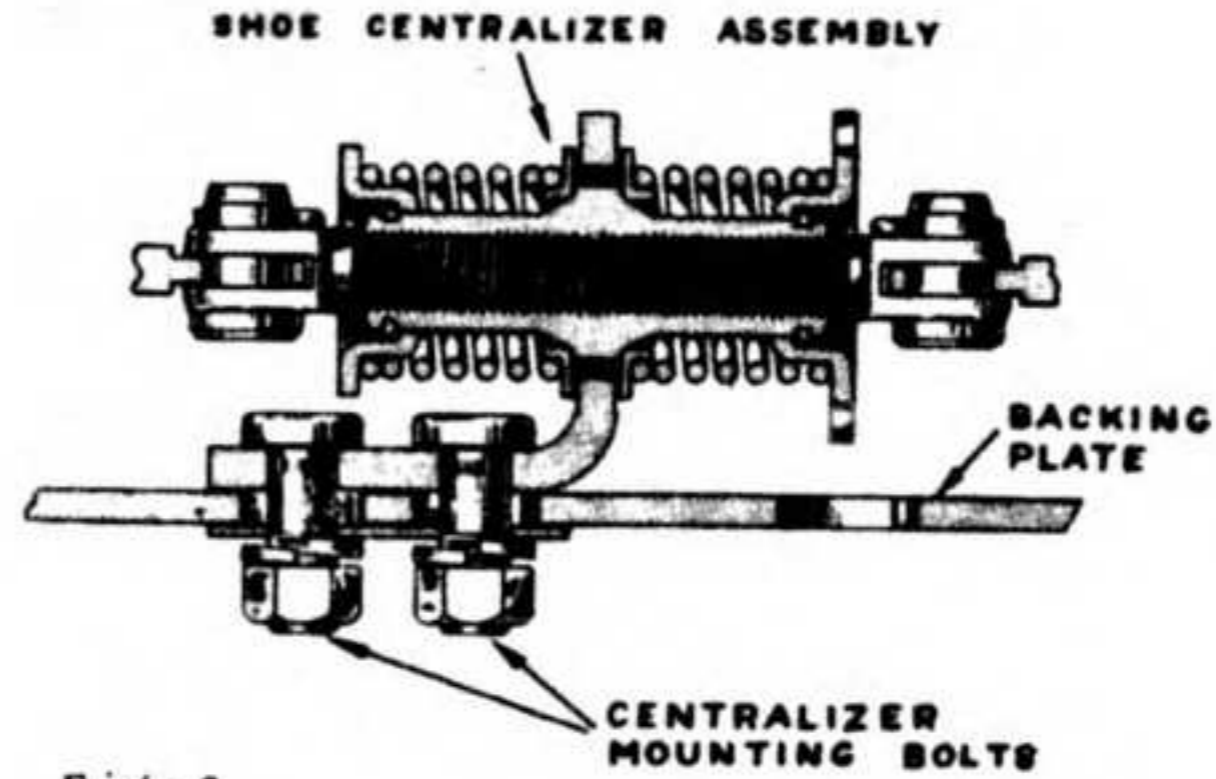

Fig. 3
NOTE: IF THERE IS INSUFFICIENT PEDAL RESERVE AFTER COMPLETING A MINOR ADJUSTMENT AT ALL WHEELS, ADJUST SHOE CENTRALIZER AT ALL WHEELS AS FOLLOWS: LOOSEN SHOE CENTRALIZER MOUNTING BOLT NUTS UNTIL THEY ARE JUST FREE OF LOCKWASHER TENSION SO THAT THE CENTRALIZER, FIG. 3, CAN FLOAT FREELY. EXPAND THE ADJUSTING SCREWS UNTIL THE BRAKE SHOES ARE TIGHT AGAINST THE DRUMS. TAP BACKING PLATE NEAR CENTRALIZER WITH LIGHT HAMMER TO INSURE CENTRALIZER TAKING CORRECT POSITION. THEN SECURELY TIGHTEN THE CENTRALIZER MOUNTING BOLT NUTS. RELEASE ADJUSTING SCREW 3 NOTCHES.
10. BE SURE THAT THE SHOE CENTRALIZER MOUNTING BOLT NUTS, FIG. 3, ARE JUST FREE OF LOCKWASHER TENSION SO THAT THE CENTRALIZER CAN FLOAT FREELY.
12. THEN TAP BACKING PLATE NEAR CENTRALIZER WITH A LIGHT HAMMER TO INSURE CENTRALIZER (FIG.3) TAKING CORRECT POSITION BETWEEN SHOE ENDS.